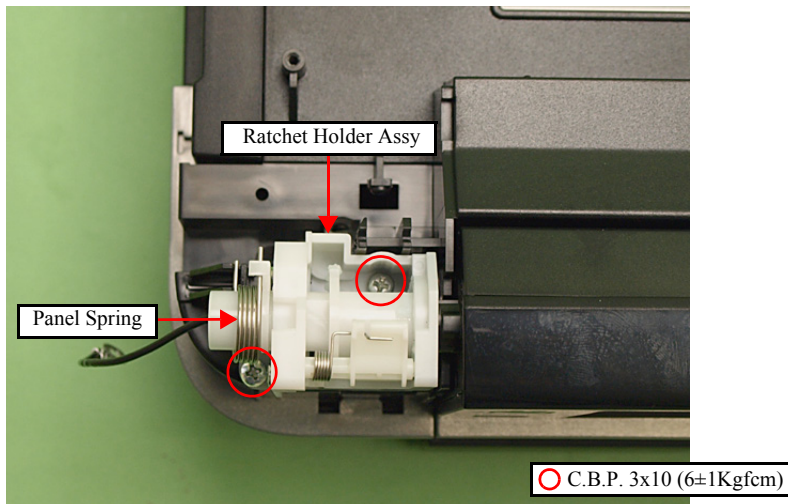

Figure 4-37. Removing the Ratchet Holder Assy (1)
2. Remove the Panel Spring (x1). (See Fig. 4-37.)